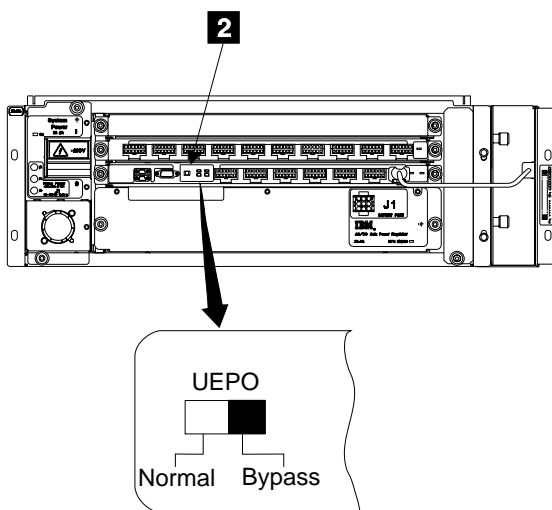

Figure 65. Bulk Power Supply Panel (t007503m)
- c. Set the UEPO switch, **2** in Figure 65 on page 82, on the front and rear bulk power supply assemblies to NORMAL (left).